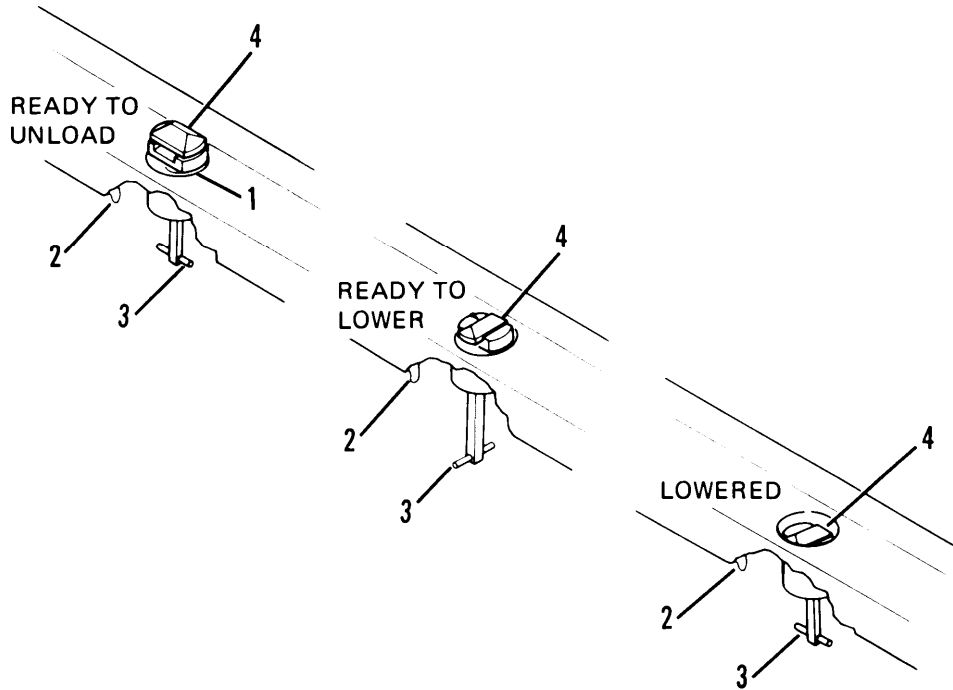

Figure 2-22. Twistlock
- (1) Release handle (3, fig. 2-22) from latch (2).
- (2) Turn handle (3) counter clockwise 90° to rotate twistlock bayonet (4).
- (3) Unload cargo container from the semitrailer.
- (4) Rotate handle (3) counterclockwise 90° and lower lock assembly (1).
- (5) Secure the handle (3) to latch (2).